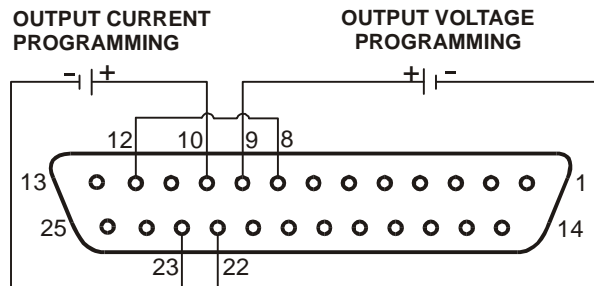

Fig.6-1: Remote voltage programming connection
- f) Connect the programming source to the mating plug of J1 as shown in Fig.6-1. Observe correct polarity for the voltage source.